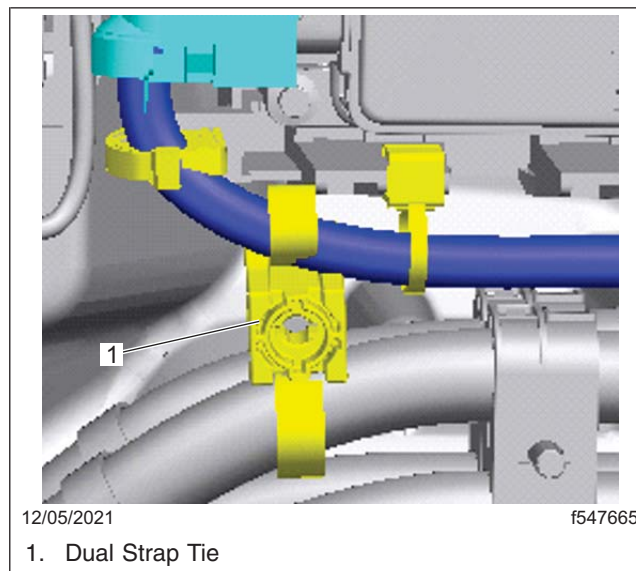

Fig. 8, Installing a Second (Optional) Dual Strap Tie
9. For C- or D-box transmissions with battery cables that route over the power take off (PTO) port and have a cable in the top outboard routing track, install the second dual strap tie on the added harness wrap zone, between the TCU connector support tie and the forward C-clip tie. See **Fig. 8**.